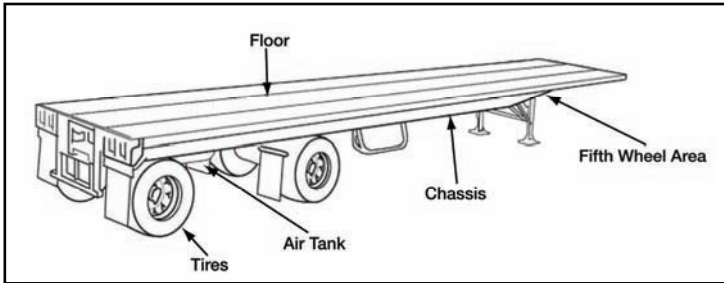

Figure 191-376-5141-2. Trailer
- c. Determine if the commercial vehicle is a hot-liquid asphalt tanker (see figure 191-376-5141-3).